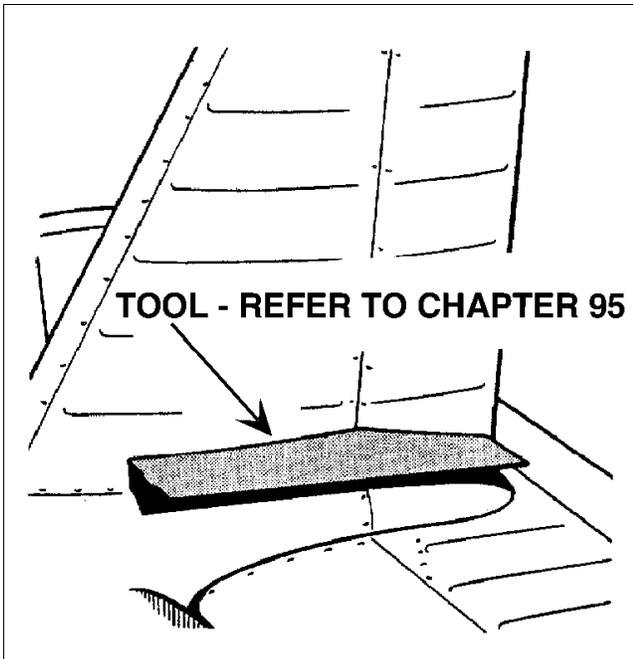
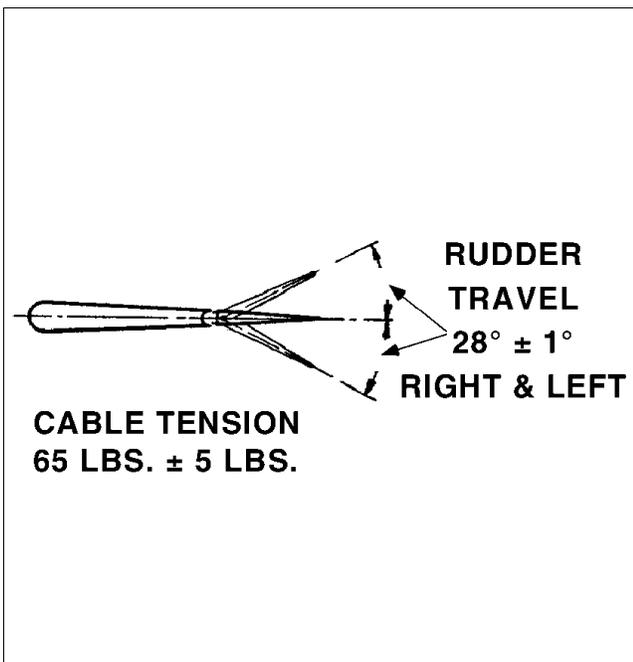

Figure 27-13. Rudder Rigging
Figure 27-15. Rudder Rigging Limits
- b. With rudder against either left or right stop, place a rigging tool against side of the rudder and vertical stabilizer as shown in Figure 27-13. *Be sure tool is not contacting any rivets.* If no gap exists between rigging tool and surfaces of the rudder and vertical stabilizer, rudder stop for that direction of travel is correct. (Refer to Figure 27-15.) (Tool may be fabricated from dimensions given in Chapter 95.)